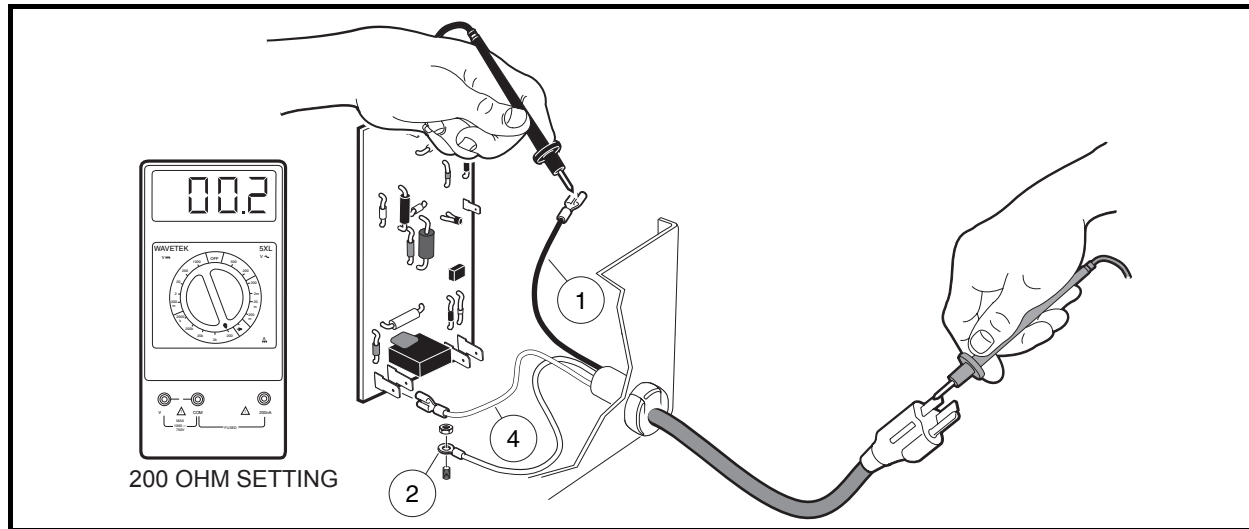

Figure 6-15 Short AC Cord Test
6. Disconnect the green wire (2) from charger case and position it so it does not touch any metal part of the charger (**Figure 6-15, Page 6-20**).